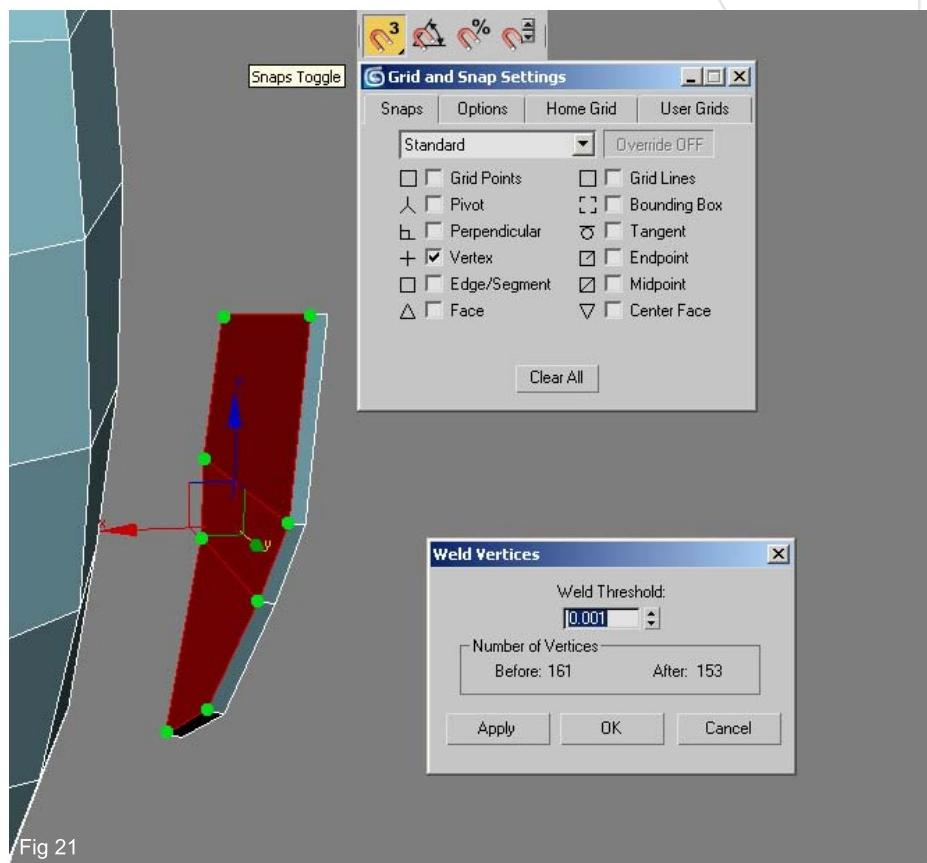

Fig 21
21. We now have a rough ear shape but you will notice that on the opposite side there is a hole. To fix this, copy the same selected faces using the same technique we have just used and rotate them around 180 degrees. Now all we need to do is attach them to the other side. Select the 3D Snaps tool on the toolbar (highlighted in yellow –top of Fig21), right click on it and tick vertex under the snaps settings. Now select the vertices on the new faces and drag over to the corresponding ones on the ear to patch up the hole indicated by the green dots. With these verts now in place select all the verts on the ear and click on the little tab next to "Weld" in the modify panel. In the dialogue box alter the threshold to 0.001. You will notice that we have a discrepancy of 8 between the before and after – this corresponds to the 8 verts that we have snapped to the other 8. We can only see 8 but there are in fact 16 separate ones and so by hitting OK we are welding this 16 into 8 and so reducing the count from 161 to 153. In other words if two verts occupy the same space they may as well be one.